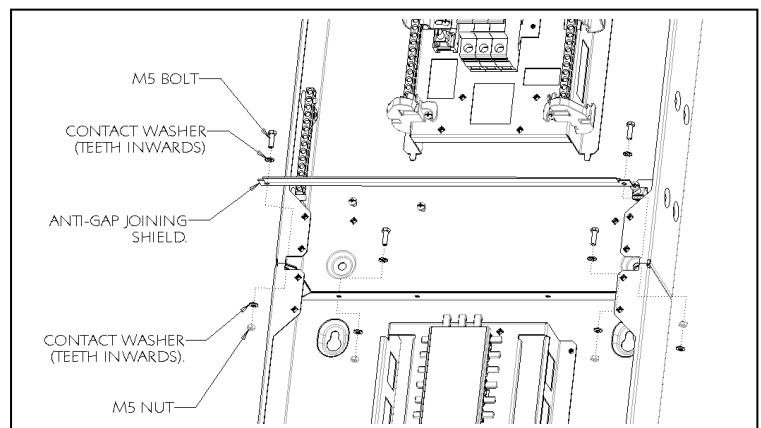

Fig.1.1
- Connect distribution boards together in 4 places using the 4 bolts, 8 contact washers, 4 nuts and anti-gap joining shield provided – see Fig. 1.1 and 1.2.